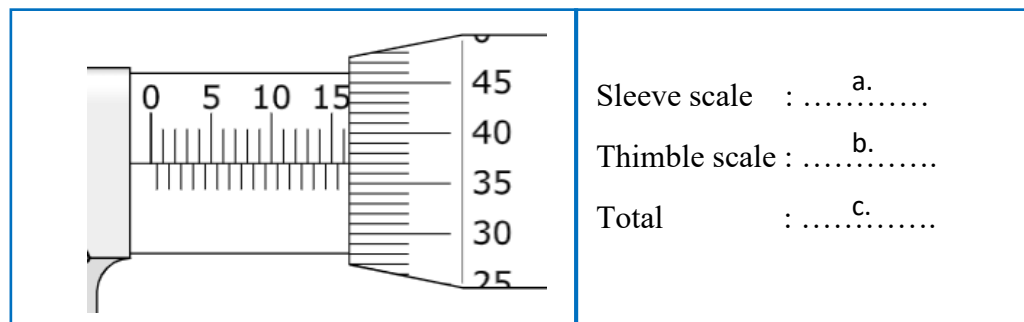

Figure 1(b) / Rajah 1(b)
- b) Based on the micrometer in Figure 1(b), express in detail the correct reading.